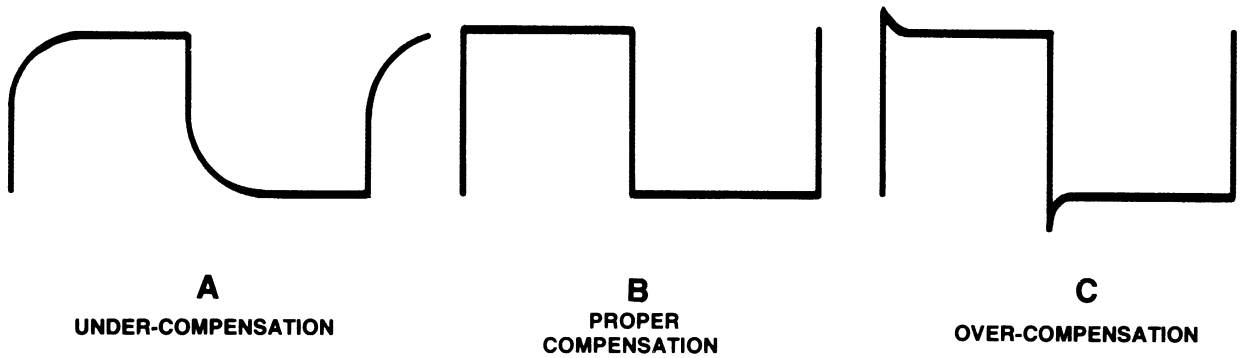

Figure 4-2. Compensation Waveforms
4.9.1 Connect probe tip to CAL OUT jack and adjust capacitor setscrew with a tuning wand or a nonferrous screwdriver until a good sharp leading edge without any overshoot is obtained (B Figure 4-2).